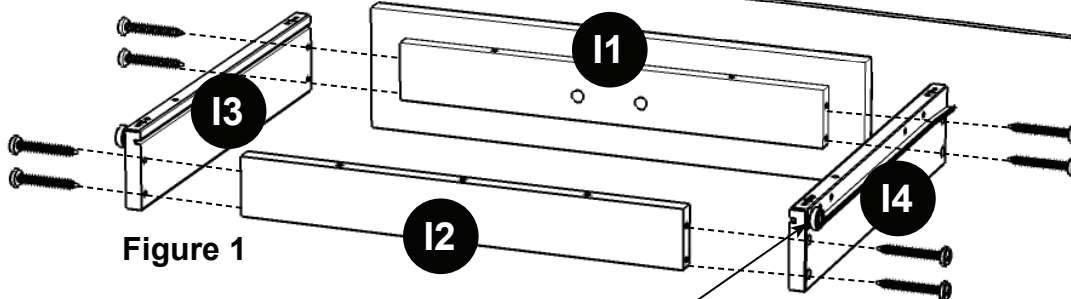

Figure 1
Insert Cam Lock Screws into the pre-drilled holes of Top (A). (see Figure 1)
Attach I2 to I3 and I4 using long wood screws (4X), tighten halfway. (see Figure 1)